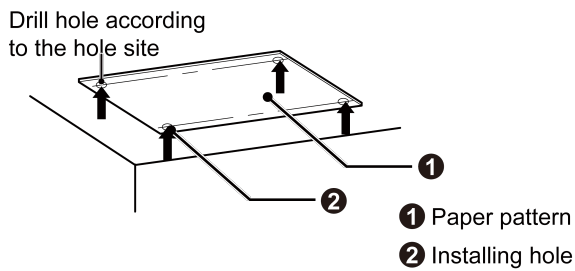
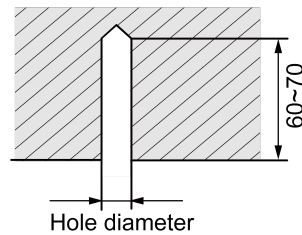

Fig.4.1.4
Fig.4.1.5
- (1) Cut out the installation paper pattern according to the hook installation dimension of unit. Place the installation paper pattern on the installation area as shown in Fig.4.1.4. Punch holes on the installation area according to the 4 spots on the paper pattern; the punching diameter may refer to the diameter of expansion bolt, about 60mm to 70mm depth, as shown in Fig.4.1.5.